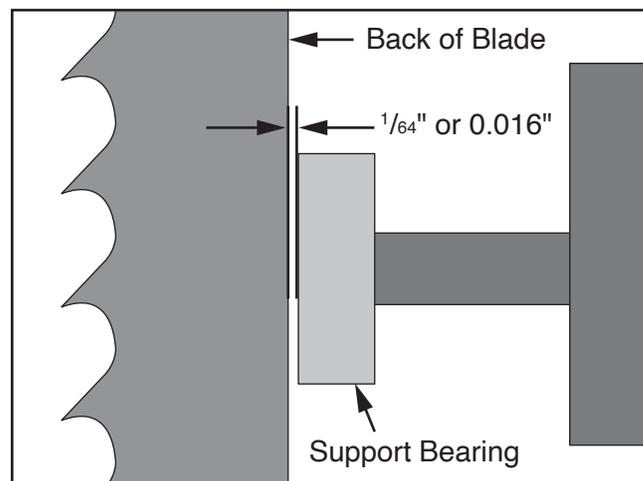

Figure 75. Support bearing positioned 0.016" behind back of blade.
3. Adjust support bearing until there is about 0.016" between front of support bearing and back of blade (see **Figure 75**).